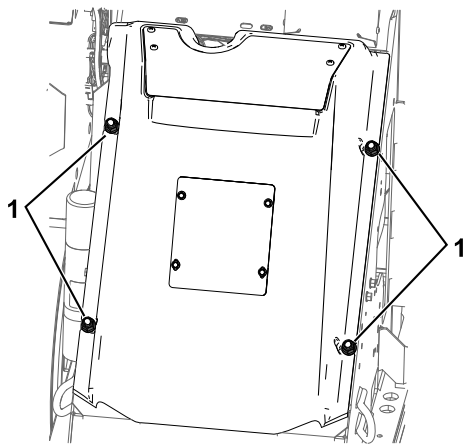

Figure 27
4. Loosen the 4 nuts securing the hood (Figure 27).